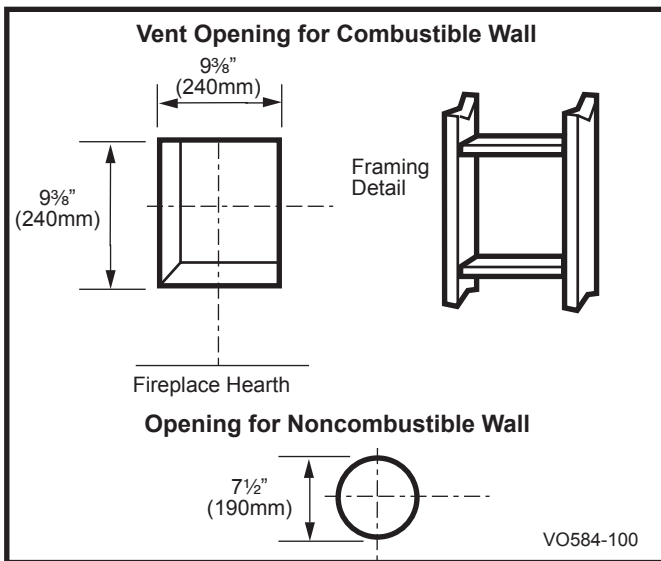

Fig. 15 Locate vent opening on wall.
Locate vent opening on the wall. It may be necessary to first position the fireplace and measure to obtain hole location. Depending on whether the wall is combustible or noncombustible, cut opening to size. (Fig. 15) For combustible walls first frame in opening.
Combustible Walls: (Fig. 15) Cut a 9³/₈"H x 9³/₈"W (240 x 240 mm) hole through the exterior wall and frame as shown.
1. Establish vent hole through the wall. (Fig. 15)